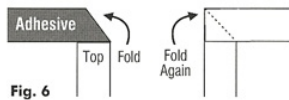

Fig. 6
9. To make a turn with Flat Wire, simply fold back and then over itself (see Fig. 6). Press as smooth and flat as possible.